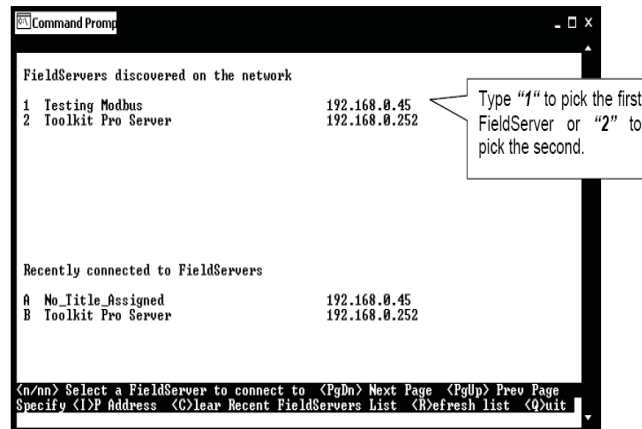

Figure 10: RUINET PT-Link II Selection Menu
5.) On subsequent connections, a list of PT-Link II s that have been recently connected may appear under the message "Recently connected to FieldServers". Select the required PT-Link II by typing the Number or Letter in the left hand column. (**Figure 10**).